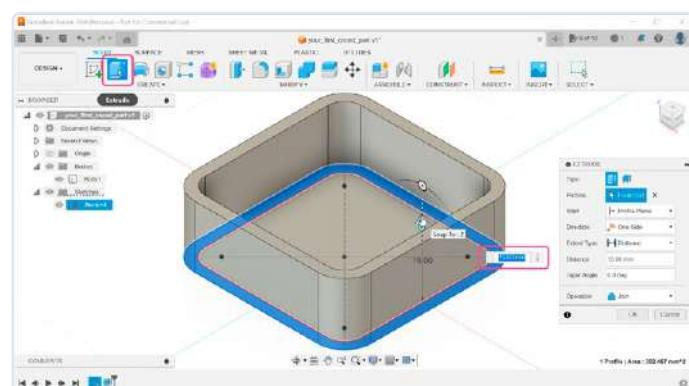

Figure 8 : Setting the enclosure's height.
8) We wanted to extrude the walls, but they suddenly disappeared. Don't worry; it's just the sketch that's hidden. In the browser in the top-left corner (**Figure 8**), open the *Sketches* group and make *Sketch1* visible. Now you can select the *Extrude* tool from the toolbar and click the outer rounded rectangle. Enter the distance of 15 mm, which will be the height of our enclosure.